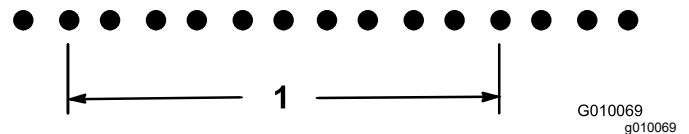

Figure 69
21.2 divided by 10 is 2.12, hole spacing is long by .12 inch from nominal (Figure 69).